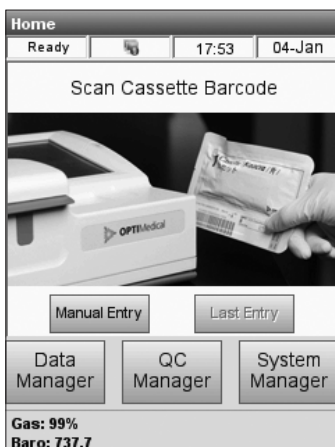

Fig. 7-3 Scan Bar Code
1. In the main screen, scan the bottom bar code on the calibrator cassette package by holding it 2-3 inches (5-8 cm) from the bar code scanner located on the bottom right-hand corner of the analyzer (Fig. 7-3).